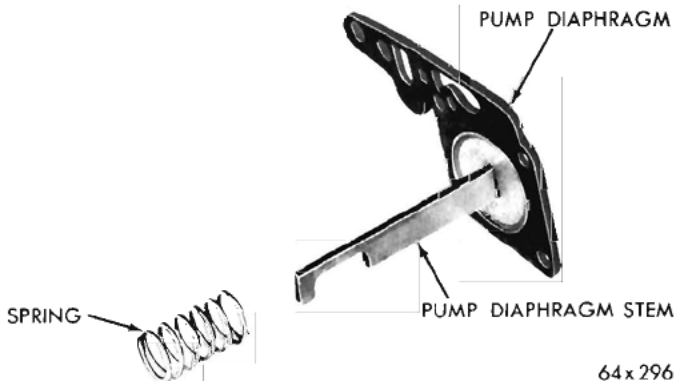

Fig. 8—Pump Diaphragm and Spring
(10) Tilt the pump lever on its pivot until the hook on the pump diaphragm stem can be released. Slide the pump diaphragm and spring out of the fuel bowl. Refer to (Fig. 8).
(1) Slide the choke shaft into the air horn, then install the choke valve.
(2) Install the choke valve attaching screws but do not tighten. Hold the valve closed, with the fingers pressing on the high side of the valve. Tap the valve lightly with a screwdriver to seat in the air horn. Tighten the attaching screws securely and stake by squeezing with pliers.
(3) Test the choke valve for binding by rotating the lever through the extent of its full travel.
(4) Install the fast idle and curb idle speed screws and springs in the throttle lever.
(5) Engage the pump cam link with the lever and throttle lever, then install cam and secure with clip. When installing the link, be sure link is in the center hole of throttle lever.
(6) Refer to (Fig. 8), then slide the pump spring over the pump diaphragm stem. Install the assembly in position in the fuel bowl and at the same time, engage the hook on the diaphragm stem with the recess in the pump lever.